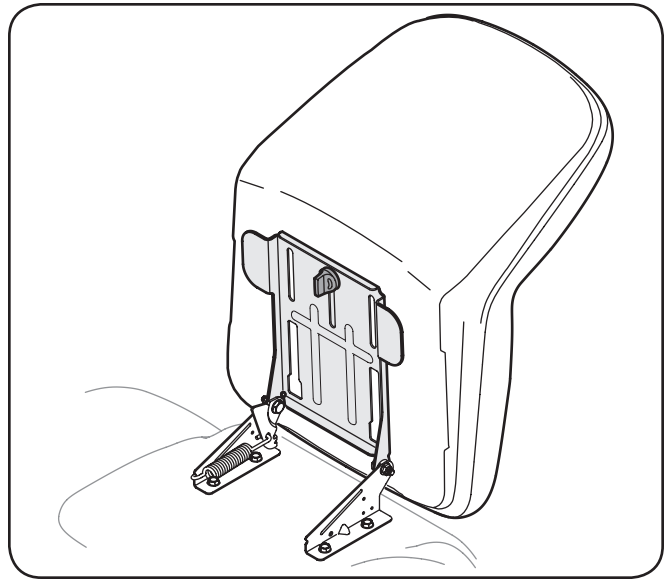

Figure 3-5
1. Position the shoulder screws (found on the base of the seat) inside the slot openings in the seat pivot bracket. Fig. 3-5.